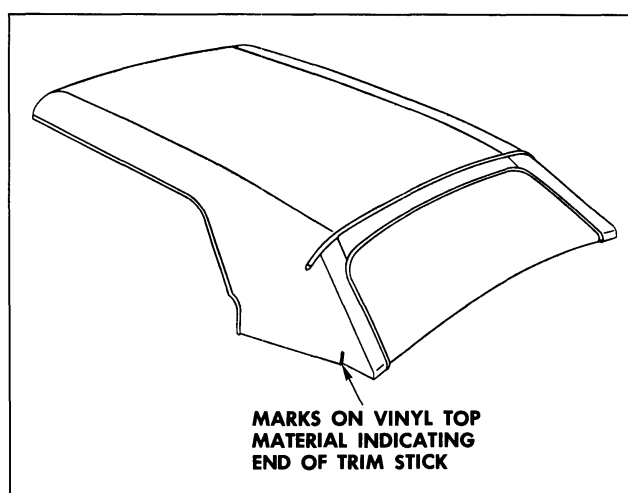

Fig. 21-17 Marking Top Material
14. Using a pencil, mark both ends of rear and rear quarter trim sticks on vinyl surface of top material (Fig. 21-17). Reference marks for trim sticks should be transferred to new top material when step 28 of installation procedure is performed.